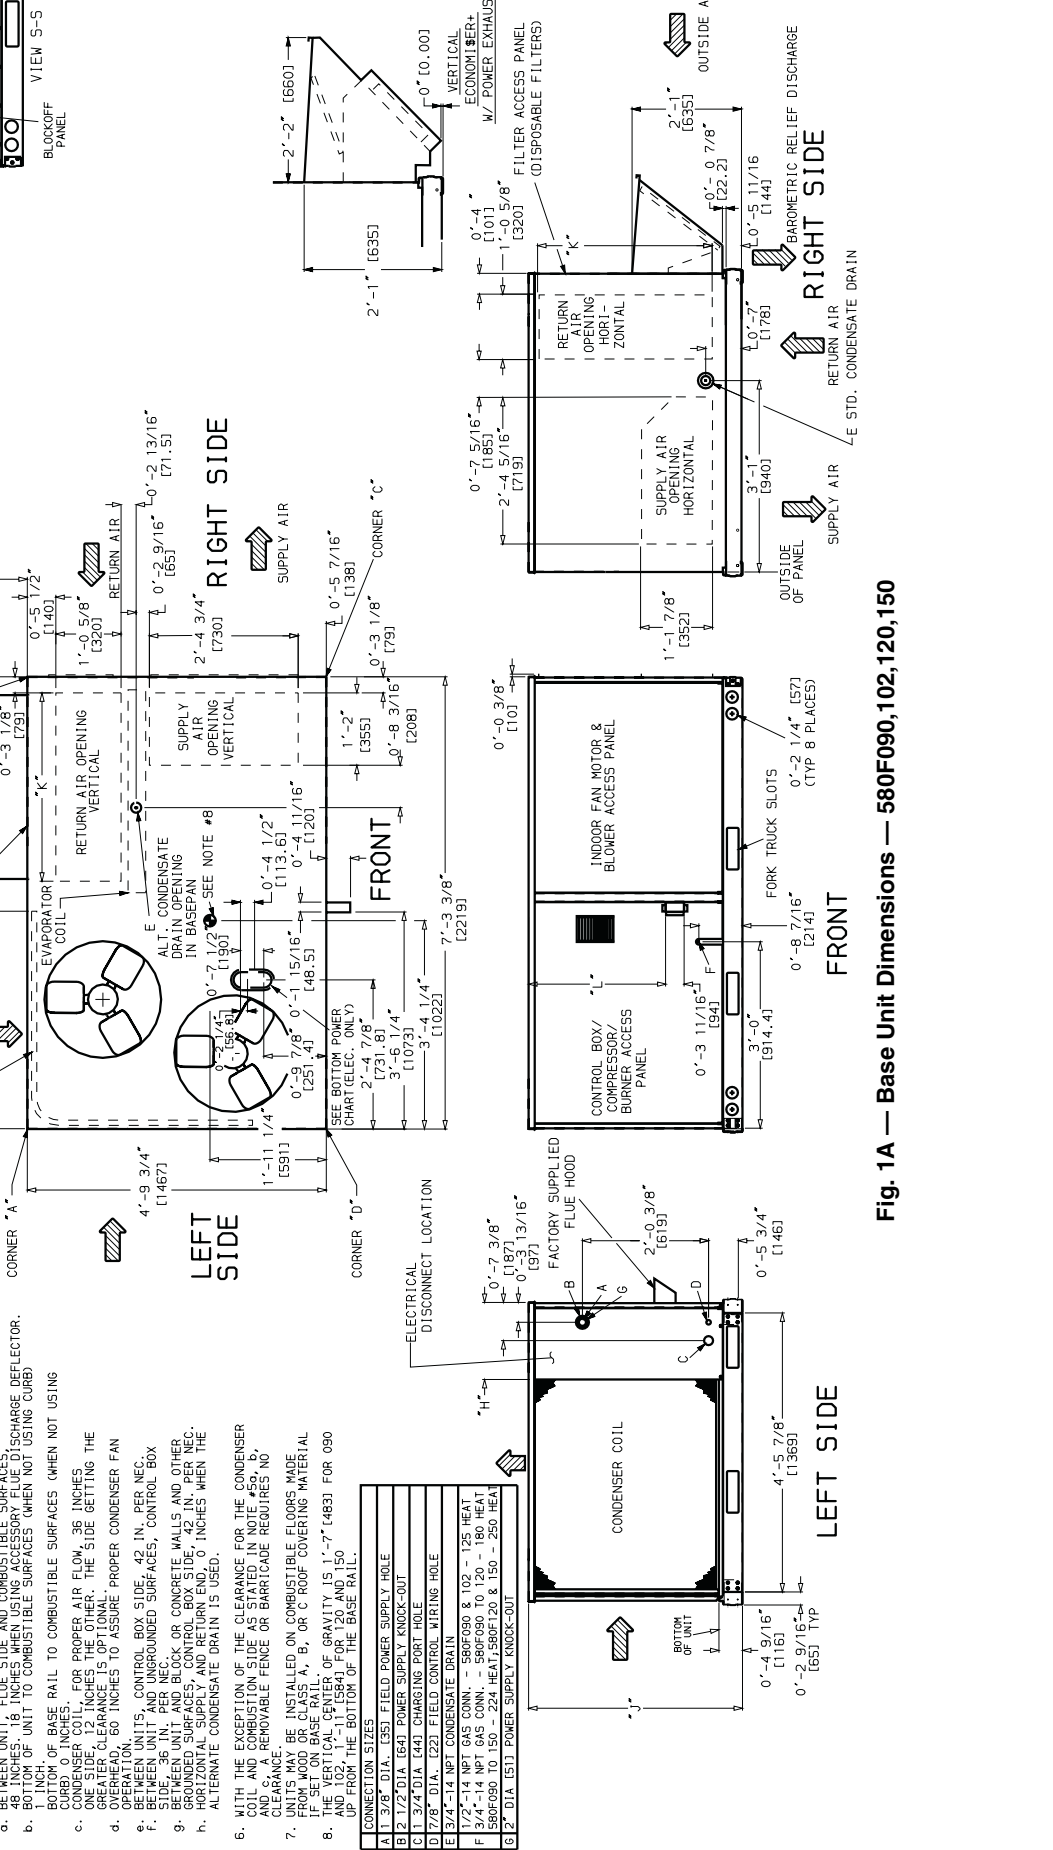

Fig. 1A — Base Unit Dimensions — 580F090, 102, 120, 150
1. Read and become familiar with these installation instructions before installing this unit. (See Fig. 1A and 1B.)
Maintain clearance around and above unit to provide minimum distance from combustible materials, proper airflow, and service access. See Fig. 1A and 1B Notes.